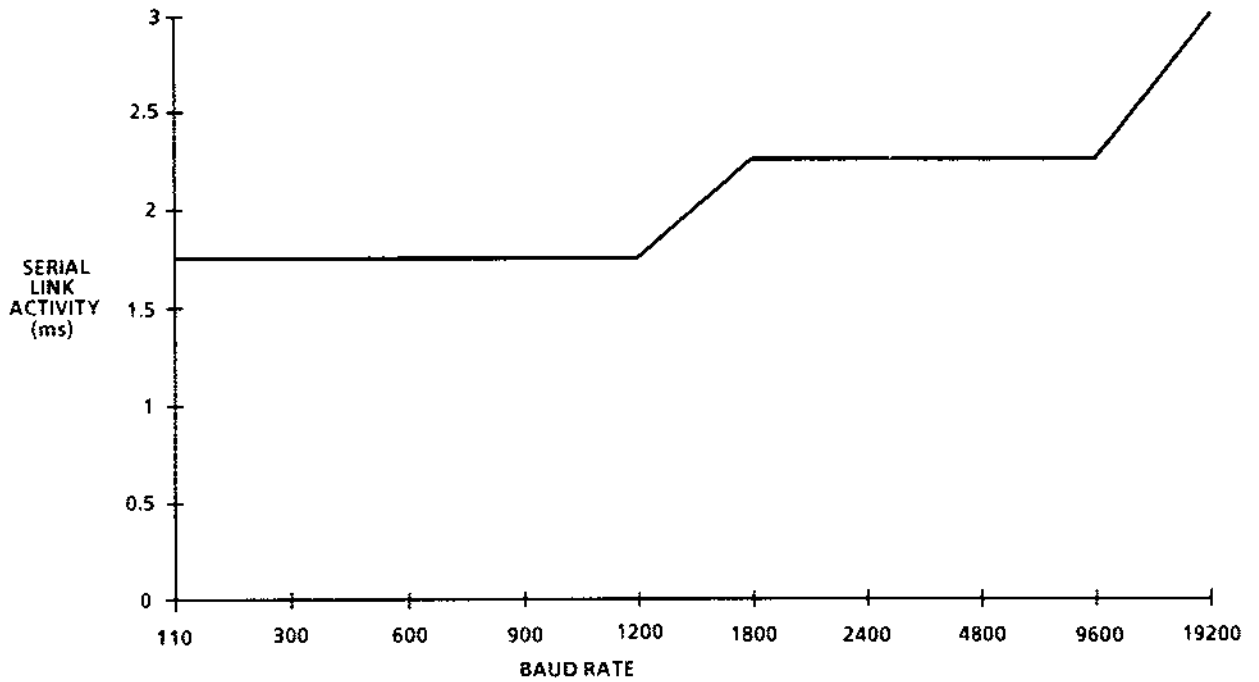

Figure 2.5 Serial Link Activity versus Baud Rate
(6) T_c = Communications - time taken by serial link activity. This increases with the Baud rate of the serial links and can be found by consulting Figure 2.5. The figures in the graph were obtained by connecting two ports back to back and continuously exchanging 32 data bytes, and represent a worst case.
(7) T_f = Special Functions - total time taken by all special functions used in the ladder program excluding those in (1) and (2). The execution times of the Special functions differ considerably and can be calculated by summing the individual times given in Table 2.1.